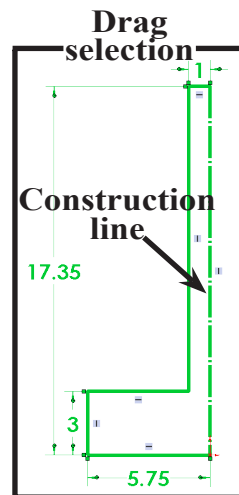

Fig. 5
Step 9. **Drag selection around the sketch** to select all entities (lines and dimensions), **Fig. 5**. To drag selection, click above and to left of sketch and drag down and to right to drag around all.